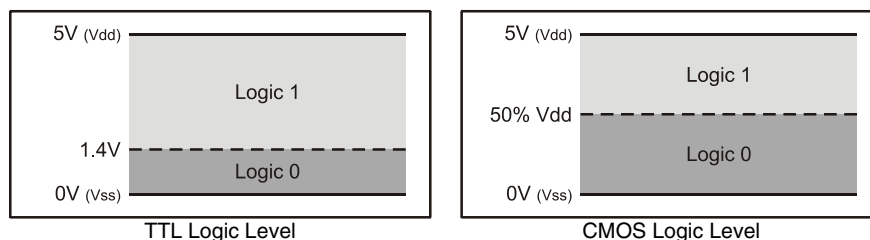

**Figure 5.2:** TTL and CMOS Logic Level Threshold Voltages
An input pin's logic threshold determines the voltage levels that are interpreted as logic high (1) and logic low (0). Most microcontrollers, and other integrated circuits use one of two types of logic threshold: TTL Level or CMOS Level. The BASIC Stamp I/O pins are, by default, configured for TTL level logic thresholds. Figure 5.2 is an illustration of the difference between TTL and CMOS logic levels.